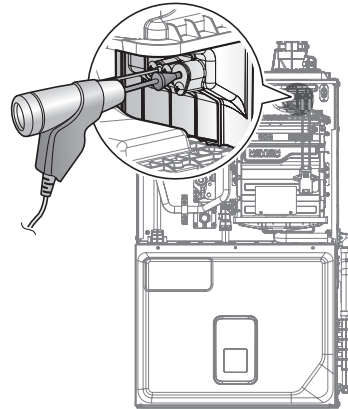

Figure 7. Insert the Analyzer
- Insert the analyzer into the port (Figure 7).